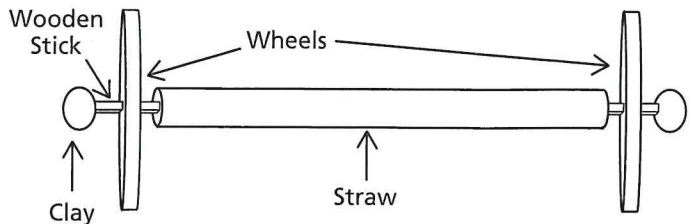

Figure 1: Wheel and Axle System
2. Create 2 wheel and axle systems (Figure 1).